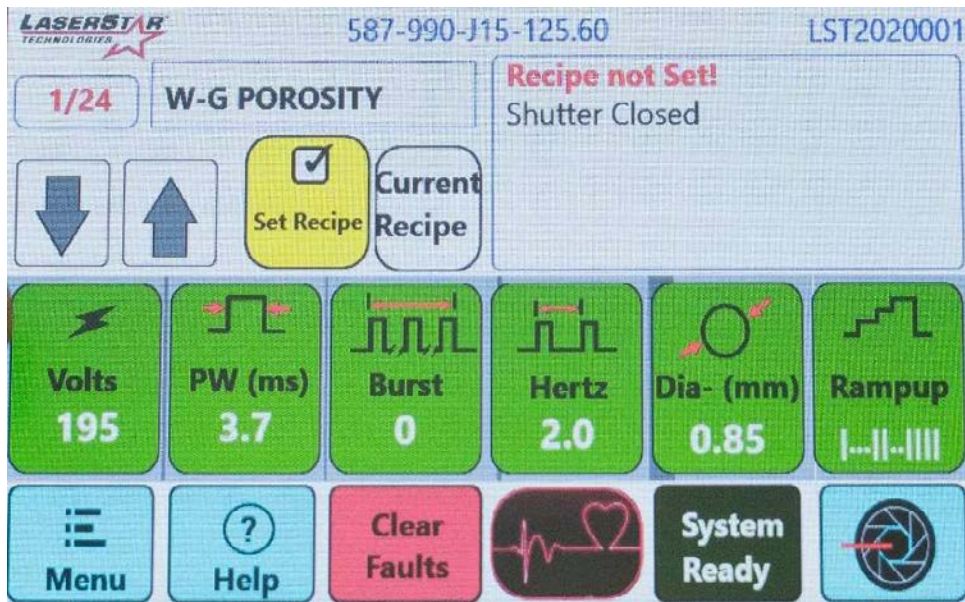

Figure 11
The display layout is shown in **Figure 11** below. The first row shows recipe location, description of the recipe & messages; the second row displays operational / mode choices, Arrow Keys, Set Recipe, and current Recipe. The third row Green buttons display weld parameters-Voltage (V), Pulse Length (mS); Pulse Rate (Hz), Burst Mode or Pulse Suppression (optional / model specific); Beam Diameter; and Shape. The fourth row displays Laser Shutter status, System Ready, heartbeat indicator, Clear faults, help and Menu. **(Note: When the heartbeat button indicator is beating, the welder is ready to weld. The Safety Shutter button is used to open and close the safety shutter and displays the status.)**